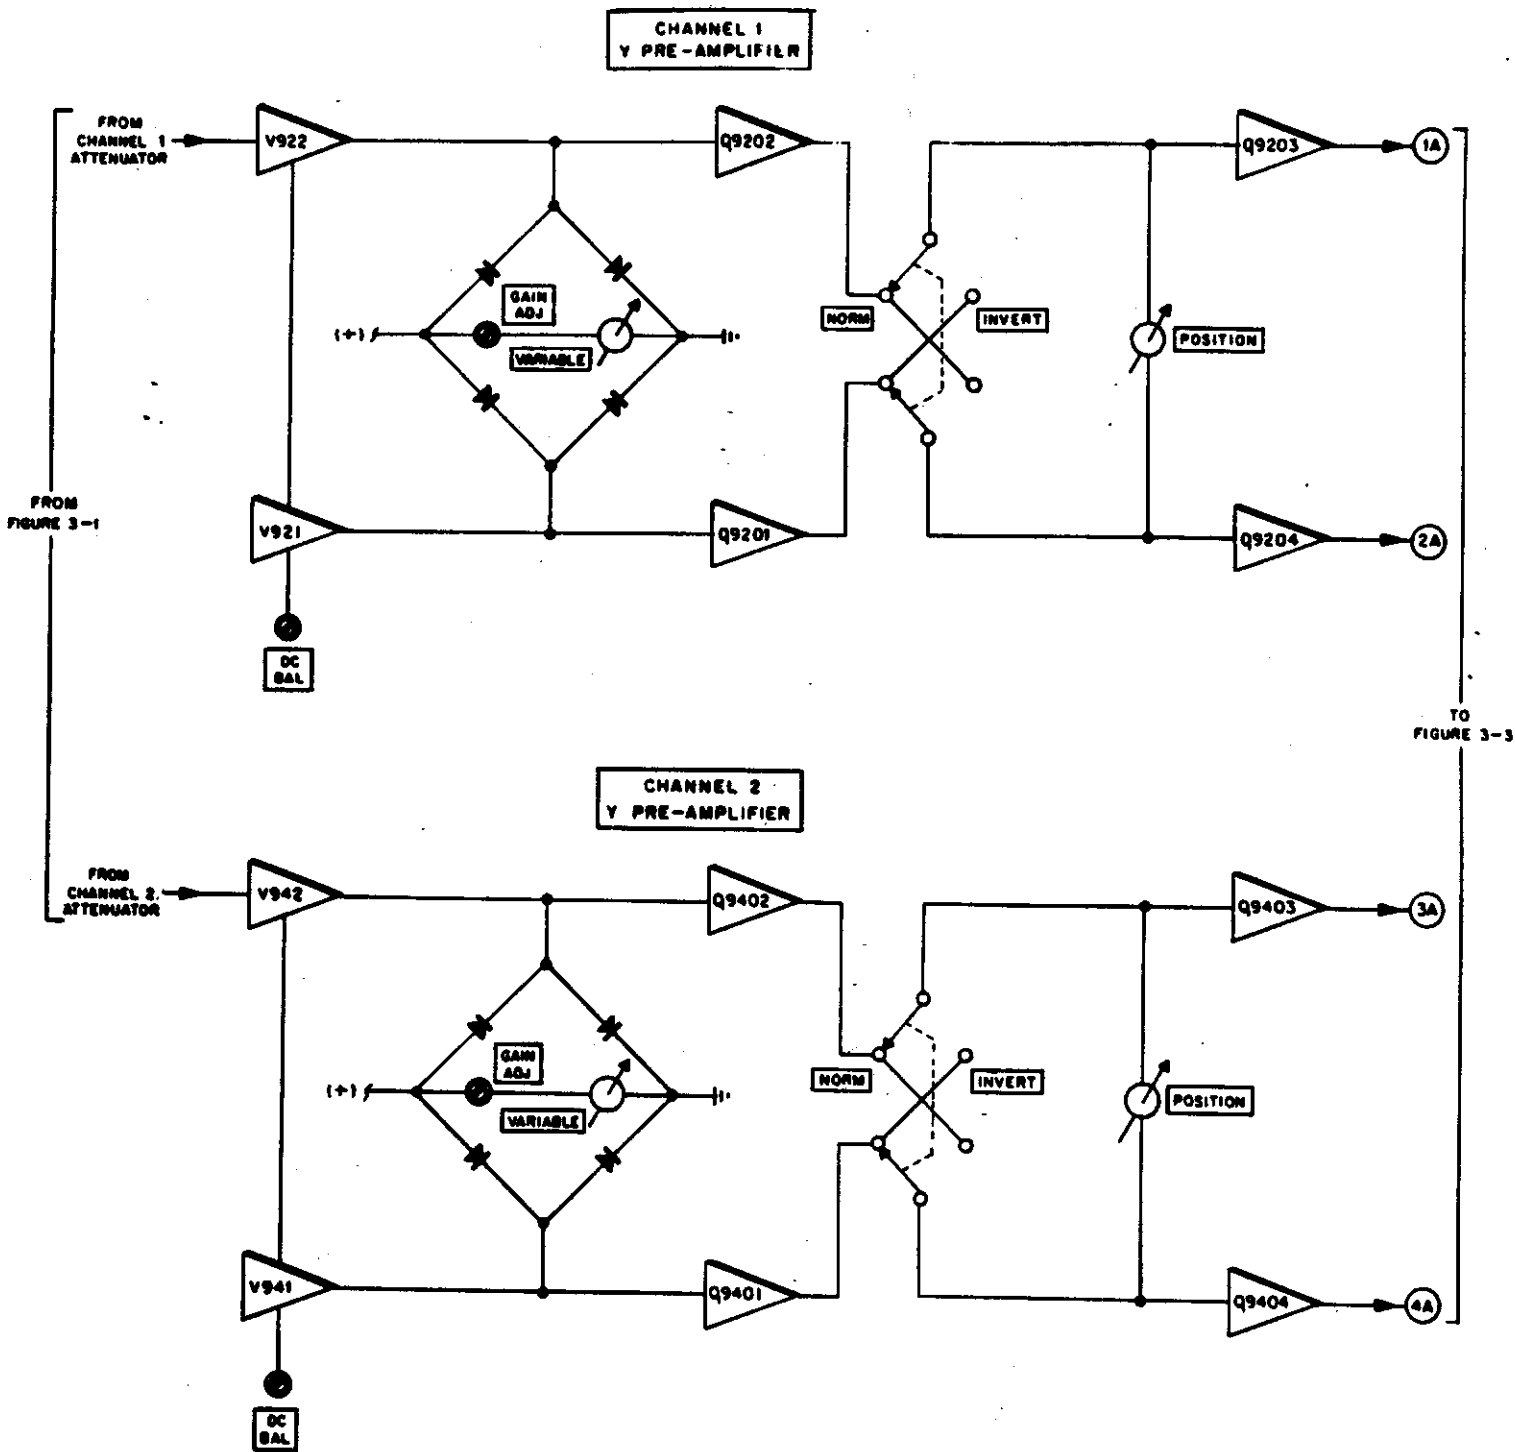

FIGURE 3-2. TYPE 79-02A CHANNELS 1 & 2 PRE-AMPLIFIERS, FUNCTIONAL BLOCK DIAGRAM
- Figure 3-2. Type 79-02A Channels 1 & 2 Pre-Amplifiers, Simplified Functional Block Diagram